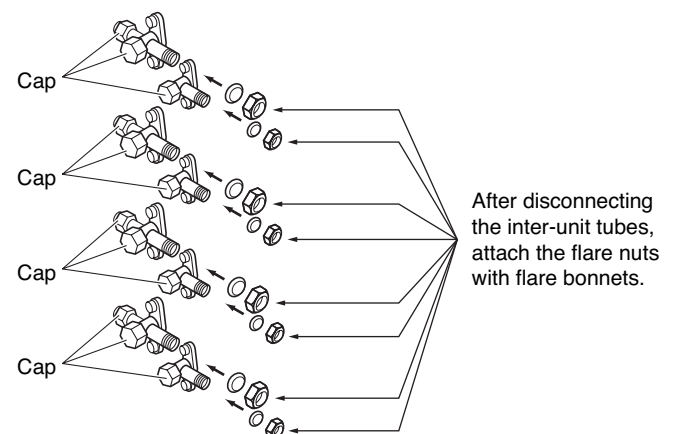

Fig. 24
- (4) Disconnect the manifold gauge and the inter-unit tubes, and attach the caps and flare nuts. At this point, pump-down is completed. (If the caps and flare nuts are not reattached, there is the danger of gas leakage.) (Refer to Fig. 24.)